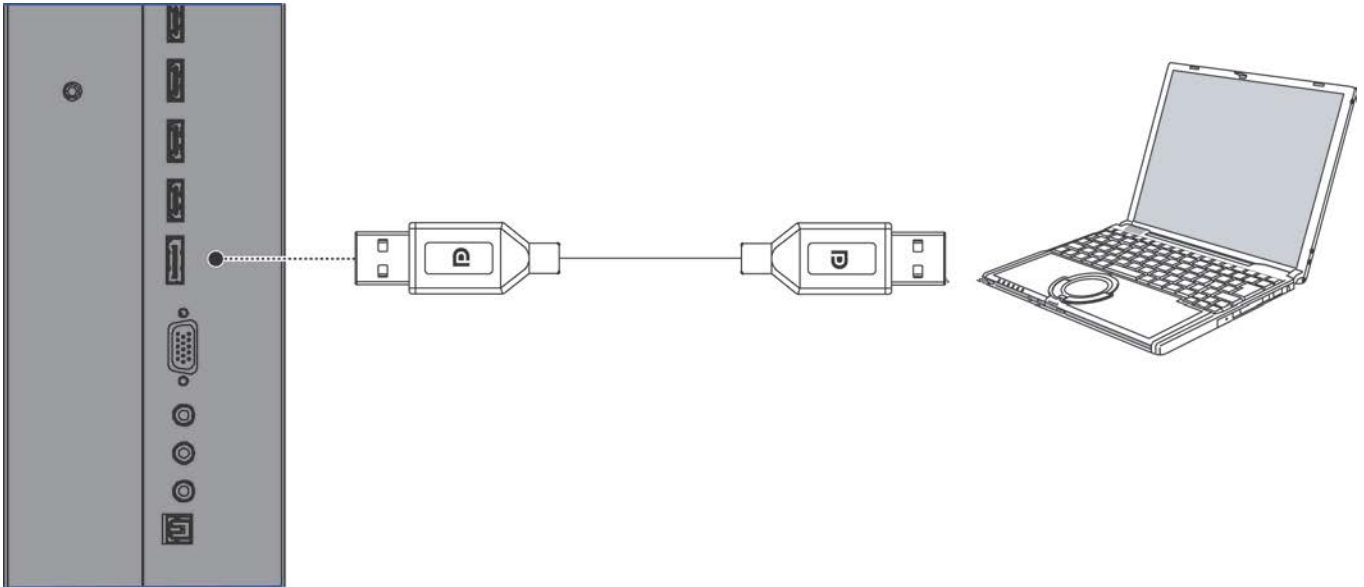
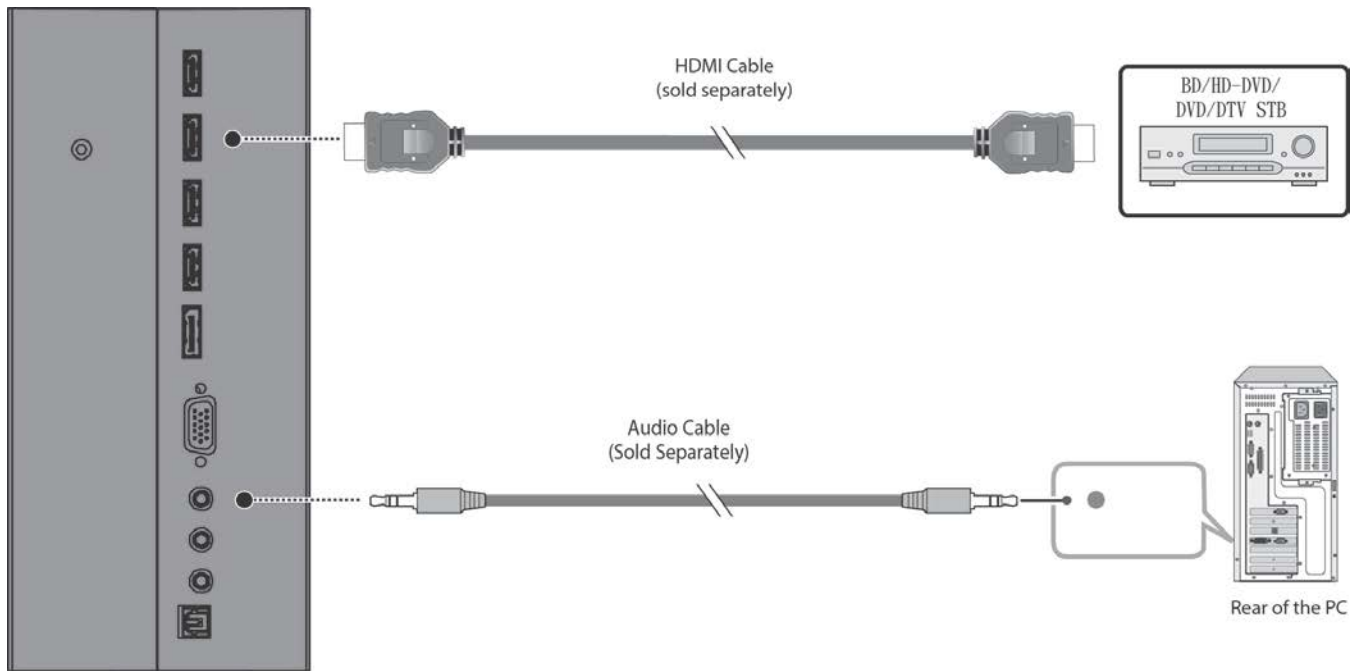
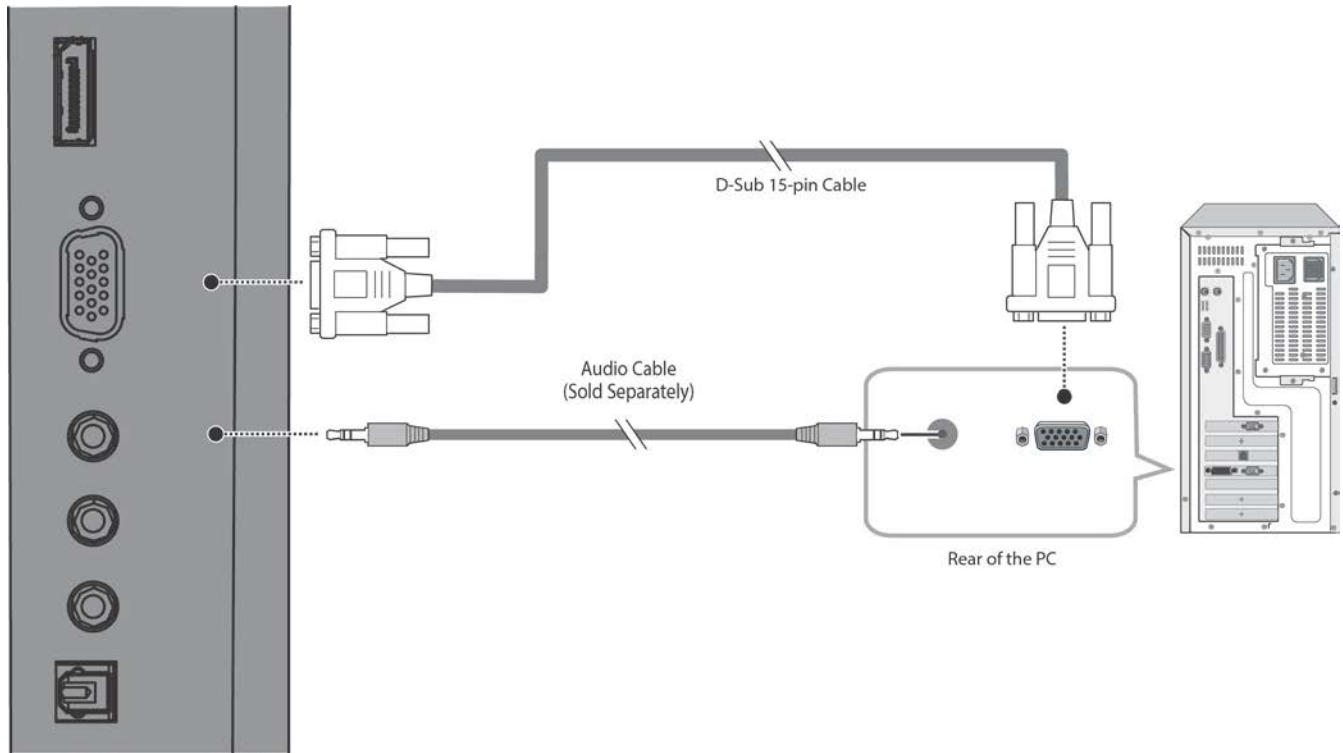

Figure 3-6. DisplayPort Source Connection
Figure 3-7. HDMI Source Connections
Figure 3-8. VGA Source Connections
DisplayPort Source Connection: See Figure 3-6.
HDMI Source Connections: See Figure 3-7.
VGA Source Connection: Connect a personal computer or other RGB source to the VGA input as shown in Figure 3-8.
- The video output from the computer is connected to a video input on the display. See Figure 3-6, Figure 3-7 or Figure 3-8.